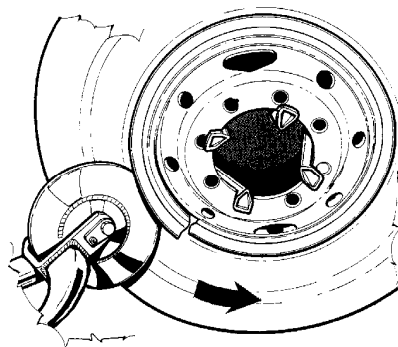

Fig.39
4. To remove the lock ring, squeeze one edge with the proper bar and place the bead breaker disc as shown in Fig.39.